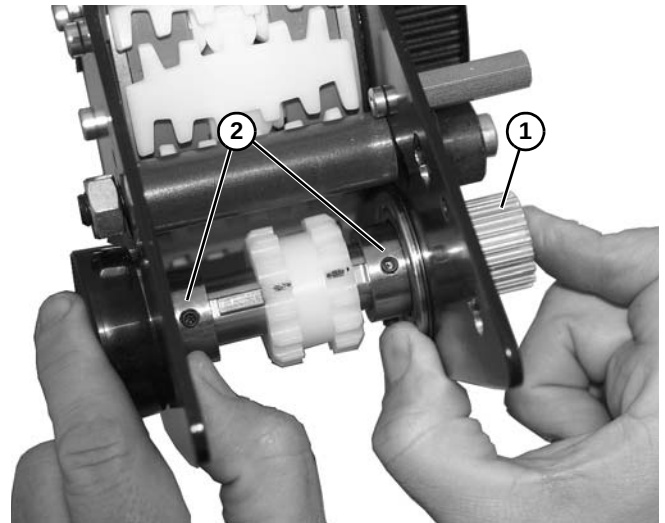

Figure 115
1. Install drive shaft (**Figure 115, item 1**) on two bearings (**Figure 115, item 2**) and press outward as shown.